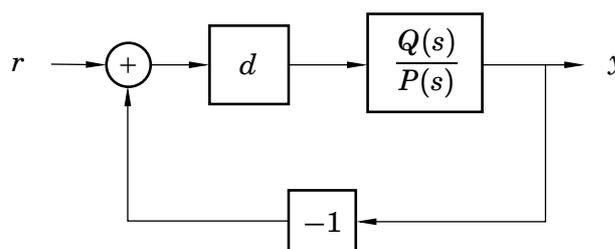

Figure 2.8 Closed-loop system for Problem 2.7.
- a. Find the characteristic polynomial of the closed-loop system. Show that the same characteristic polynomial can be generated by a feedback loop between some system $\frac{Q(s)}{P(s)}$ and d where $m = d + 1$. See figure 2.8. Determine $Q(s)$ and $P(s)$ so that they are not dependent on d .